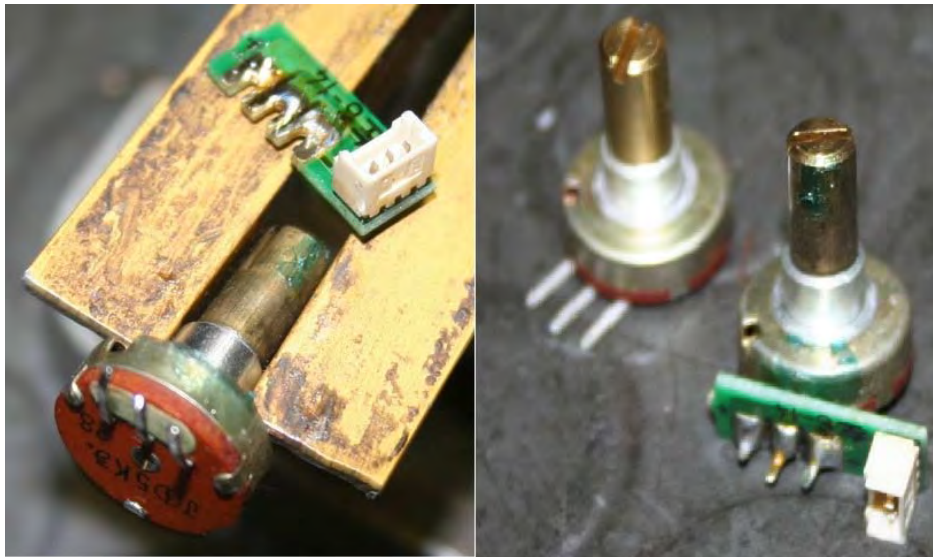

Figure 21 Desolder the connector PCB (green) from the POT
9. Desolder the connector PCB, solder it onto a new POT (see Figure 21).
The joysticks on the 9Z contain potentiometers (POTs) that sense the position of the stick. These POTs work by having a drive shaft that is clamped to the joystick and rotates relevant to the POT casing when the joystick is moved (see Figure 21) which changes the resistance across the POT’s output lines. In this way the 9Z can sense when the joysticks are centred or moved. The central position and extremes of the joystick are set by calibrating the 9Z’s software to recognise them as the “central”, “full up” and “full down” positions. However, mechanically the POT can only rotate so far and the 9Z is only sensitive enough to register certain changes in resistance of its output wires as the POT rotates; in effect, this means that the POT must have its drive shaft near to its central position when it is installed or calibration of the 9Z software will not work.